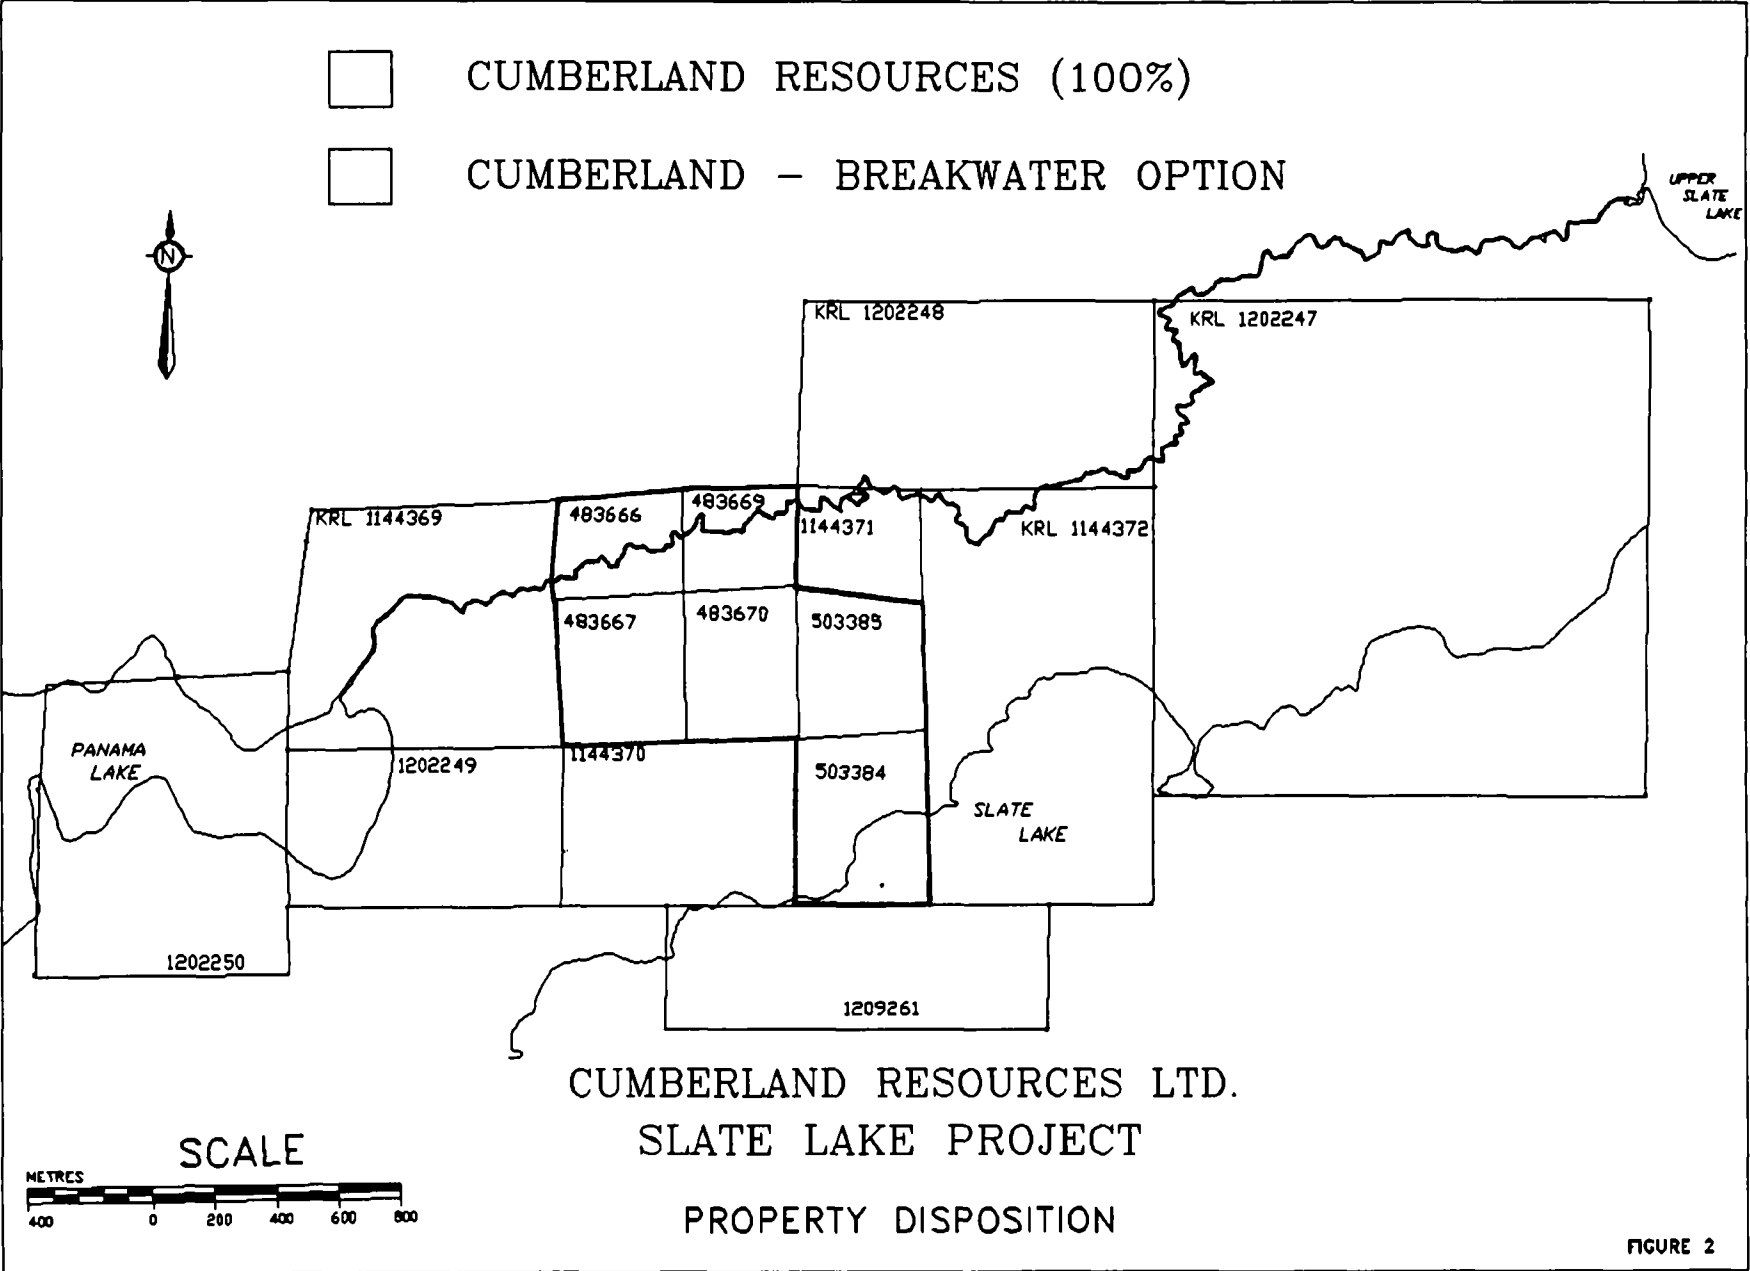

FIGURE 2
The property is comprised of nine(9) contiguous unpatented mining claims, totalling 44 units, in addition to six(6) mining lease claims that are part of an option agreement with Breakwater Resources Ltd Figure 2.
The Slate Lake property is located in the Slate Lake Area, Map Sheet G-1884 and consists of 50 contiguous unpatented and leased mining claims (Figure 2). Schedule of claims is of follows: